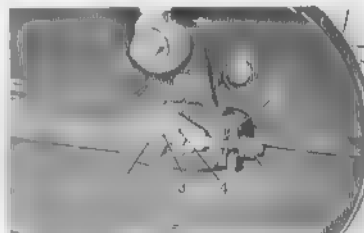

Fig. 5.27 Adjusting the drive chain
- Perform adjustment by loosening the axle nut ① and sleeve nut ② and then adjust with the adjusting nut ③ (Fig. 5.27)